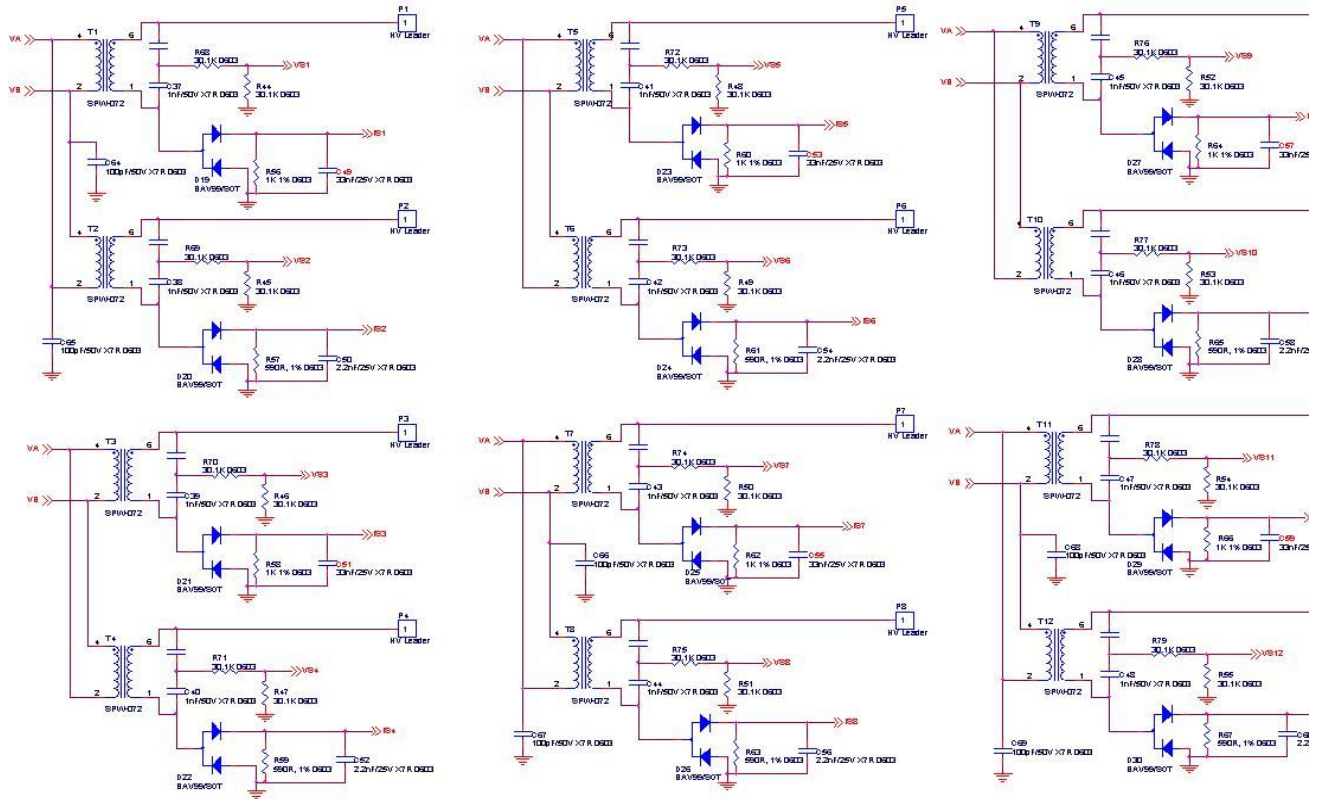

Fig.3
2.1.2)Output Circuit and Protection Circuit:(fig.3)